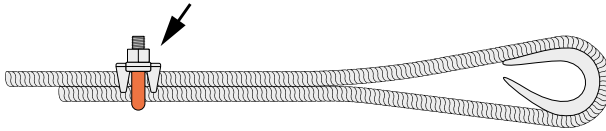

Figure 3.: Install first clip
- Place the first clip one clip-width from the dead end of the rope (see Fig. 3).